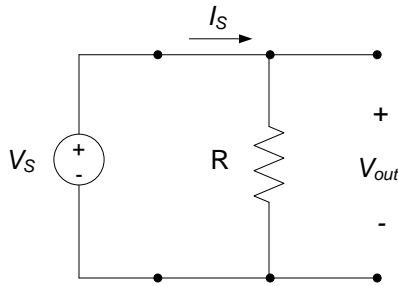

Figure 1. Circuit schematic.
Consider the circuit of Figure 1. Our goal is to reduce the circuit resistance to the point where the internal resistance of the power source begins to have an effect on the circuit's behavior.
If $R = 25\Omega$ and $V_S = 1V$, analyze the circuit of Figure 1 to determine expected values for the measured voltage V_{out} , source current I_S , and power dissipated by the resistor, for the cases in which
- Construct the circuit of Figure 1, using $R \approx 25\Omega$ and $V_S \approx 1V$, and estimate the source resistance of your voltage source. The following steps are suggested in order to do this: